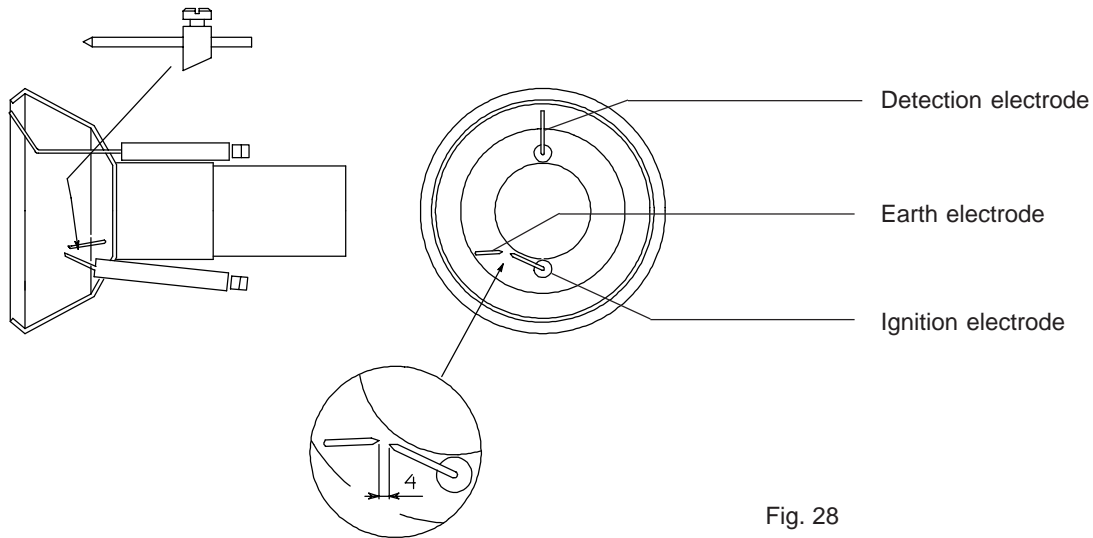

Fig. 28
- examination of ignition electrodes, cleaning, possible adjustment and, if necessary, replacement (see fig. 28);
- examination of detection electrode, cleaning, possible adjustment or, if necessary, replacement (see fig. 28);